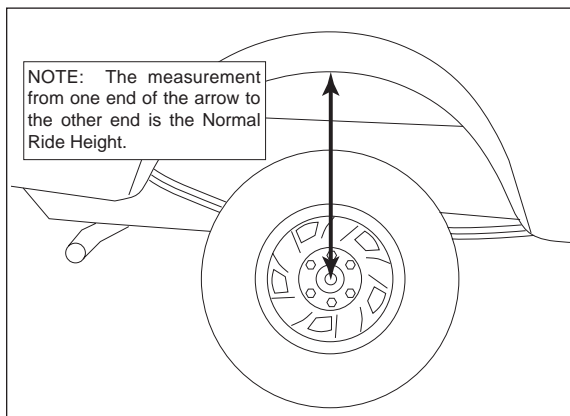

Figure 2
2. Measure the distance between the center of the hub and the bottom edge of the wheel well (see Figure 2). This is the Normal Ride Height. Enter the measurement below: